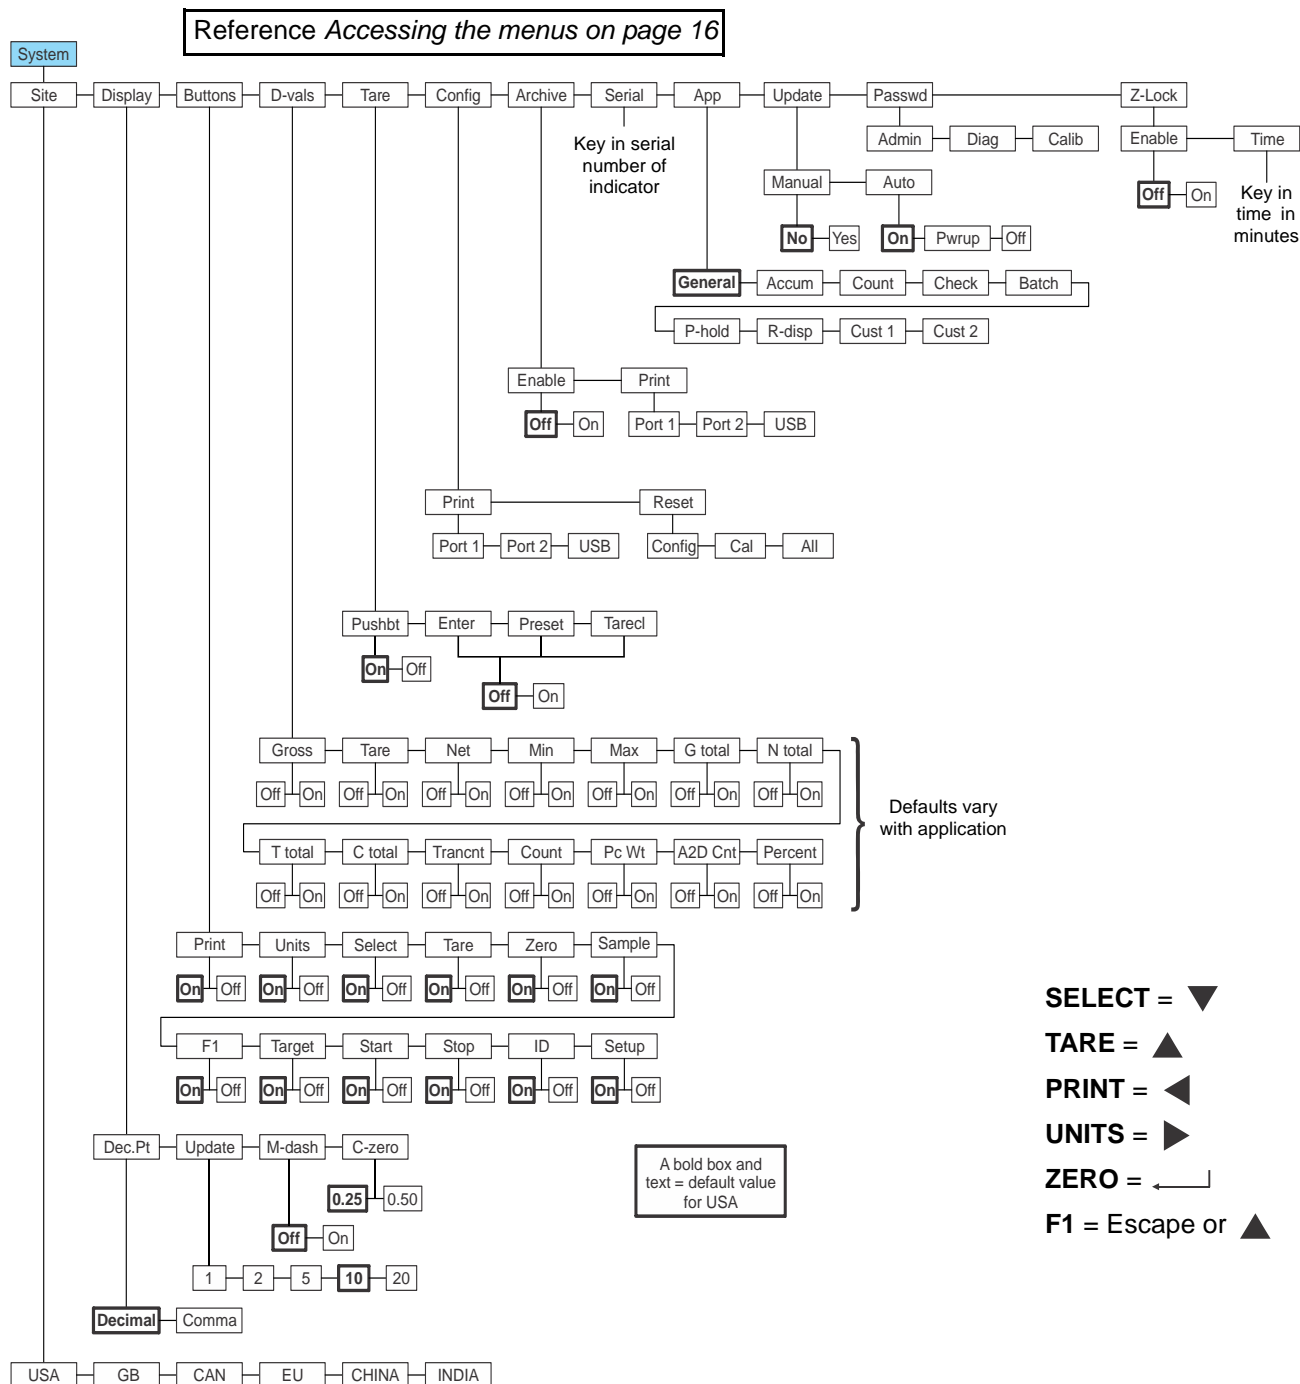

Figure 6.5 System menu
Use the System menu to configure system parameters such as loading defaults for the country of operation, setting available display modes and tare functions, selection of the scale application mode, and several other functions that will be described. Refer to Figure 6.5 as you setup the items of the System menu.
6. Repeat steps 3 through 5 for all the keys you want to change. Refer to the list of buttons in the menu found in Figure 6.5 on page 59. When finished press **TARE** ...